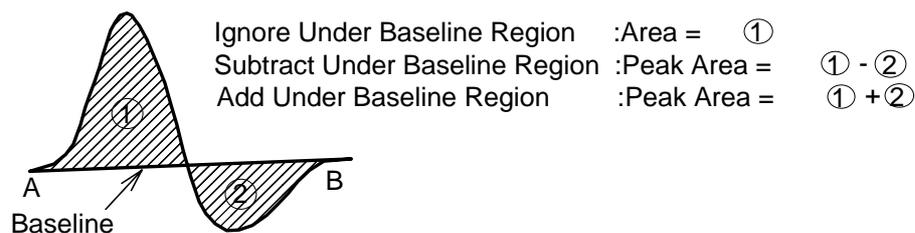

Fig. 2.39 Example 1
- (1) Ignore Under Baseline Region
- (2) Subtract Under Baseline Region
- (3) Add Under Baseline Region
To calculate peak area ①+② in Fig. 2.39, designate a [2 Point Base] from Point A to Point B and select [Add Under Baseline Region]. To calculate peak area ①, designate a [2 Point Base] from Point A to Point B and select [Ignore Under Baseline Region]. To calculate peak area ①-②, designate a [2 Point Base] from Point A to Point B and select [Subtract Under Baseline Region].
[Calculation] group	Select area calculation method from the following three methods. (Refer to Fig. 2.39 and Fig. 40) [Ignore Under Baseline Region] [Subtract Under Baseline Region] [Add Under baseline Region]